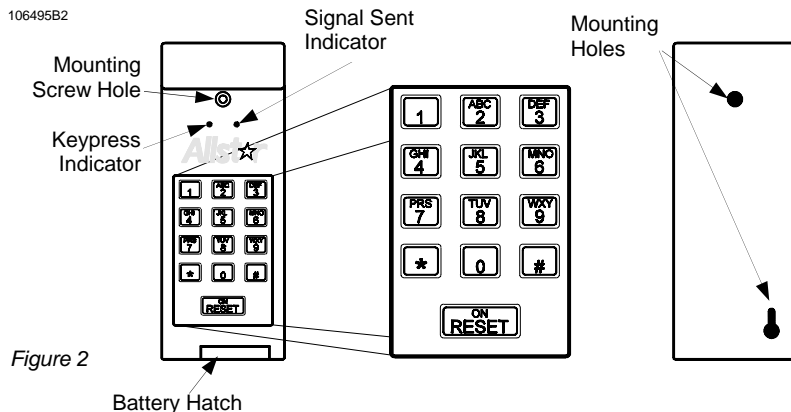

Figure 2
**Key Press Indicator:** This green LED (see Figure 2) will light whenever a key is pressed indicating a valid key entry.
**Signal Sent Indicator:** This red LED (see Figure 2) will light whenever a valid PIN is entered indicating that a radio signal was sent to your garage door or gate operator.
If you look at your keypad you will notice that there are twelve keys, 1 to 9 and 0 plus two specially marked keys \* and #. Most of the keys also have letters printed on them to allow you to set a personal keyword instead of a PIN. (See Figure 2)